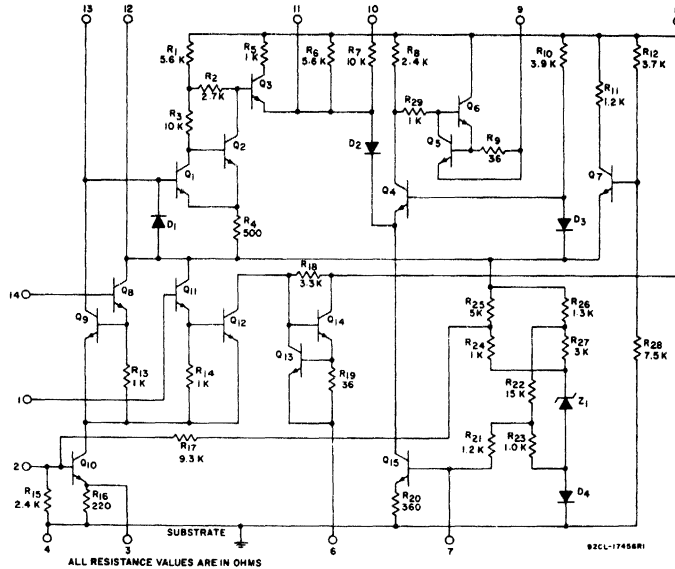

Fig. 6 - Schematic diagram for CA3071.
1. APC ADJUST: With S_2 in "OFF" position adjust the "APC ADJ" potentiometer to set oscillator frequency at 3.579545 MHz ± 25 Hz. With S_1 in position 1 measure frequency at terminal No. 2 output, using crystal probe shown in Fig. 6.